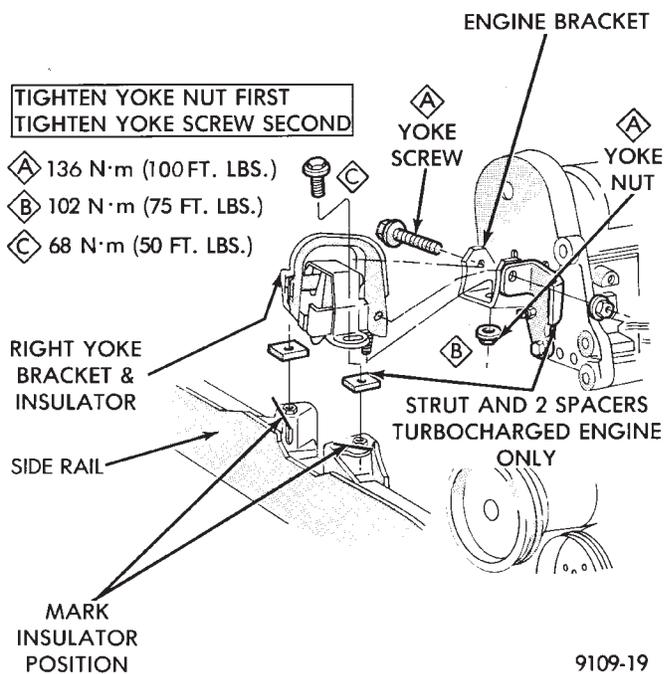

Fig. 5 Right Engine Mount-Typical
(1) Remove timing belt cover refer to timing belt cover service of this section for procedure.
(2) Lift engine with Engine Support Tool C-4852. Separate right engine mount (Fig. 5).